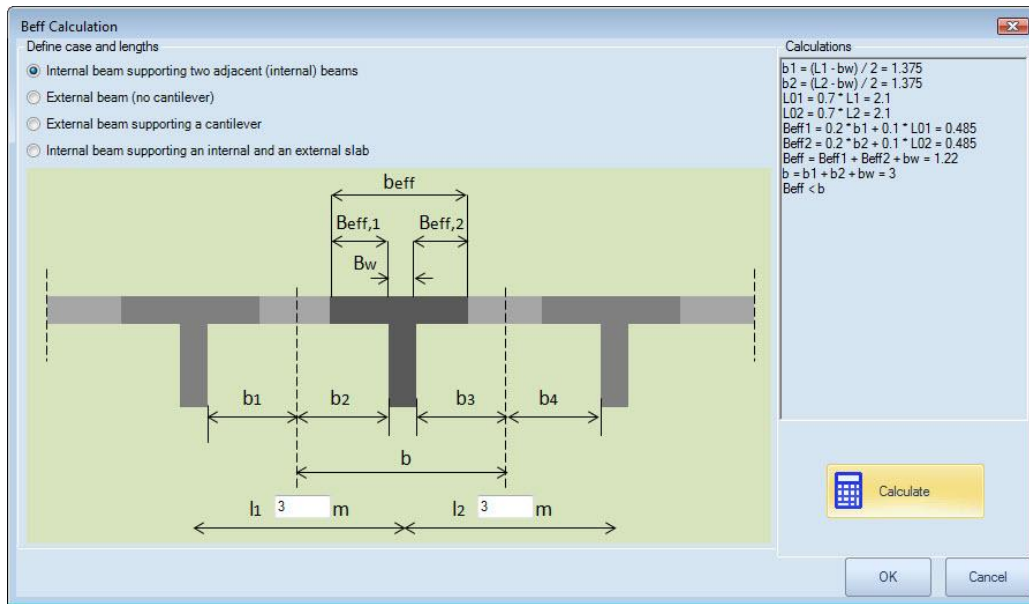

Figure 3.3.8: B_{eff} calculation dialog.
- The effective width b_{eff} (for T-section and Gamma-section beams). We can manually define a value for the b_{eff} , or compute it explicitly by pressing the  calculation (Figure 3.3.8).